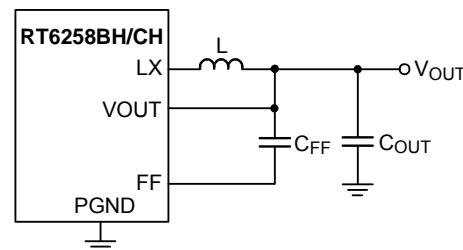
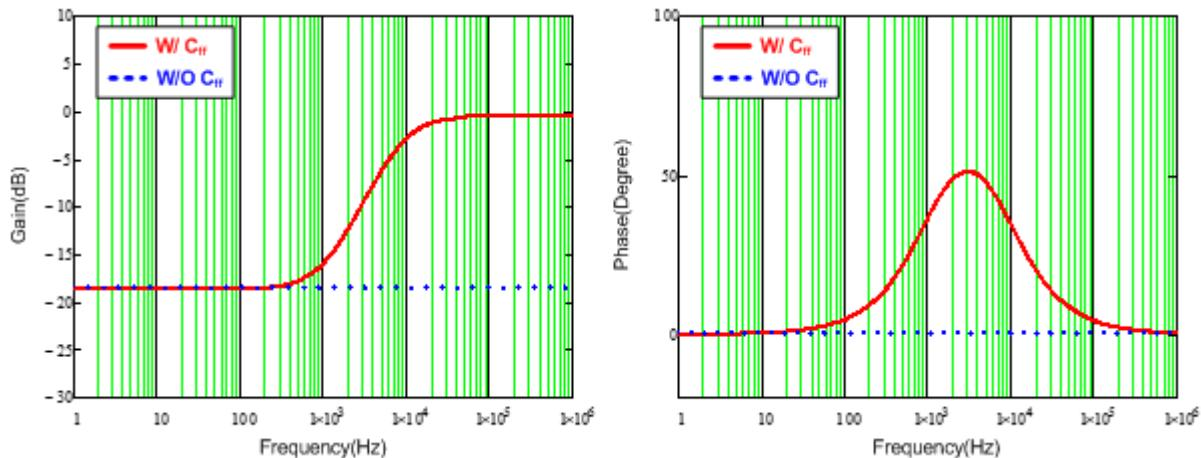

Figure 4. Feedback Loop with Feedforward Capacitor
Figure 5. Bode Plot with Different Feedback Loop Conditions
For saving time to design compensator and reducing the layout area through external components, the components of compensator are integrated in IC. However, this integrated compensator might not suit to every load transient spec. Hence, for the RT6258BH/CH to be more adaptable, the feedforward capacitor  $C_{FF}$  is used in the feedback loop to improve transient response, as shown in Figure 4. Figure 5 shows the comparison result of bode plot with different feedback loop conditions. Referring to Figure 5, through connecting a  $C_{FF}$  in feedback network, the gain and phase are raised in mid-frequency that not only can extend the bandwidth, but boost the phase margin as well. Moreover, there is also a high frequency pole to eliminate high frequency noise. Consequently, those features of feedforward feedback network allow the RT6258BH/CH have faster response to handle different load transient.
Observing Figure 5, the maximum phase boost occurs between zero and pole frequencies that is defined as maximum phase boost frequency, as expressed in equation (4). Hence, in order to achieve the maximum phase boost by adding  $C_{FF}$  in the RT6258BH/CH, the system's original bandwidth has to be located at maximum phase boost frequency.